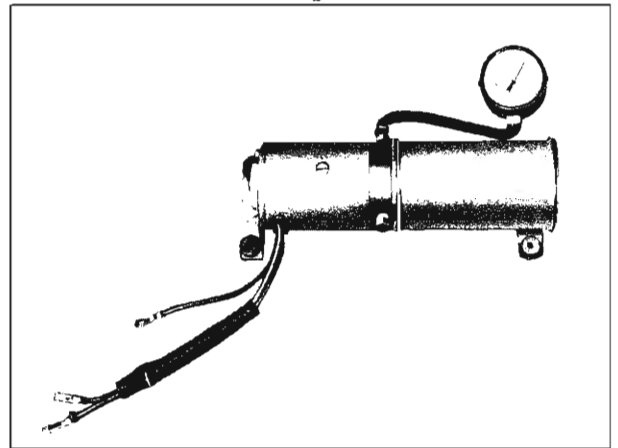

Fig. 21-69 Checking Pump Pressure
- Install plug in one port, and pressure gauge in port to be checked (Fig. 21-69).